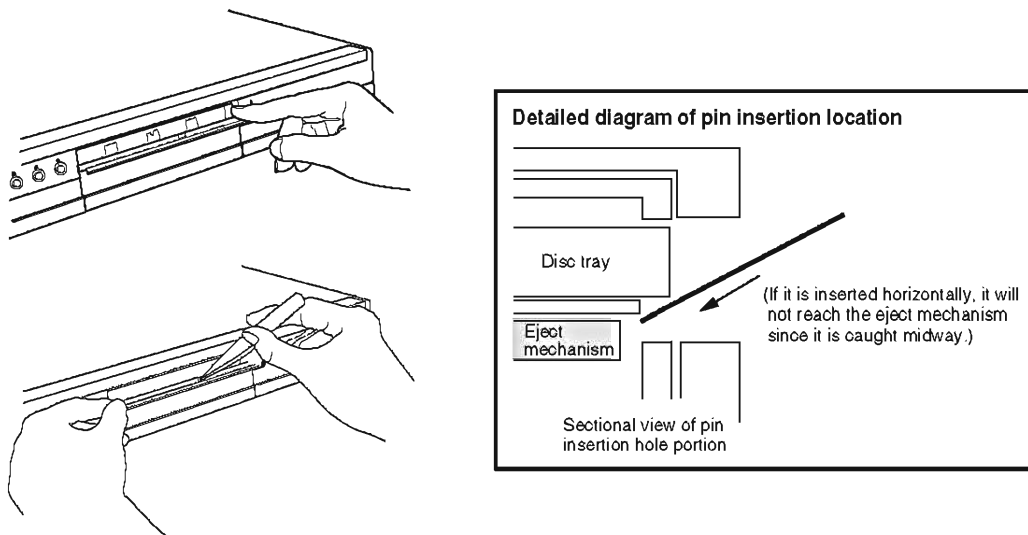

Fig. 3-1-1 Removing Disc (1)
- 2) Insert a pin (unbended clip, etc.) into the hole shown in the detailed diagram of pin insertion location in Fig. 3-1-1.